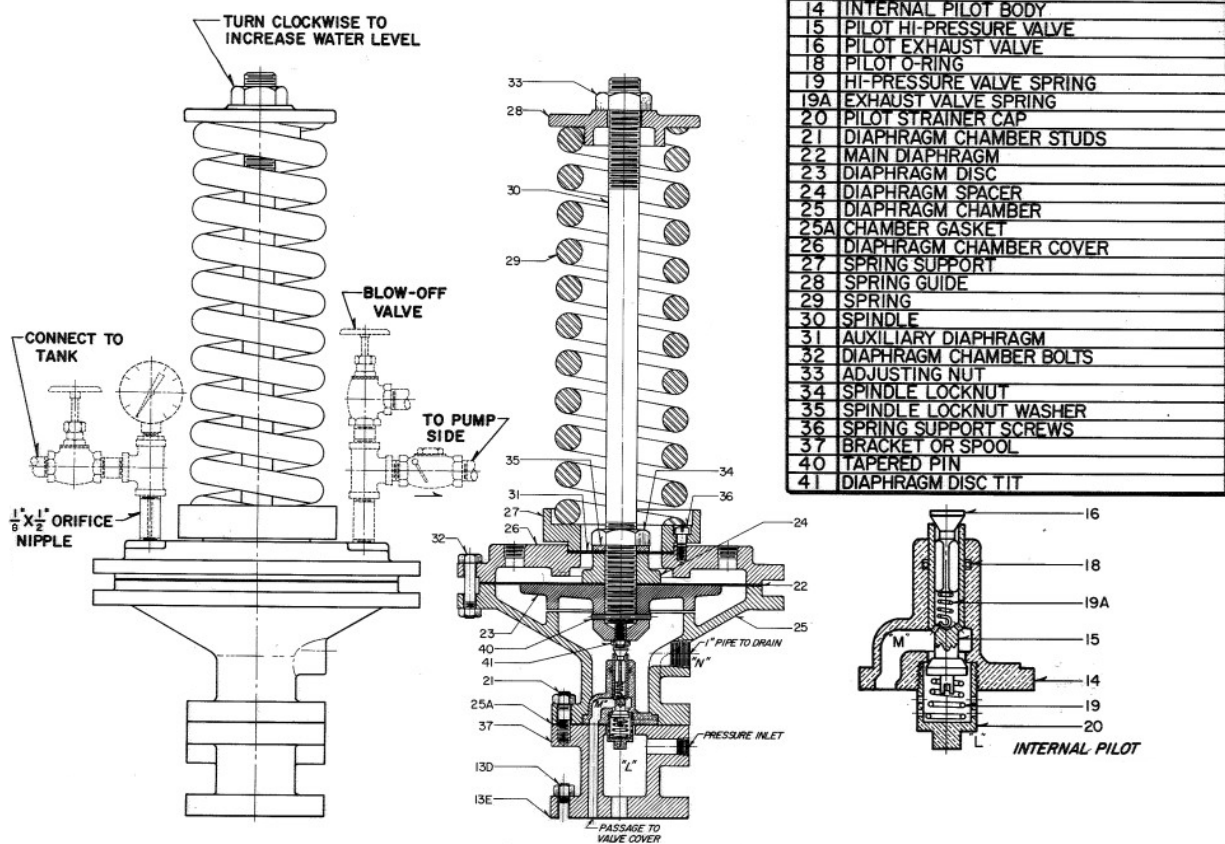

Figure 2
The maximum water level is determined by the adjustment of a compression spring. Referring to Figure 2, turning the adjusting nut (33) compresses the spring (29) and exerts an upward force on the spindle (30). Tank head applied to the top of
the main diaphragm (22) through either port "K" exerts a downward force. See Figure 2.